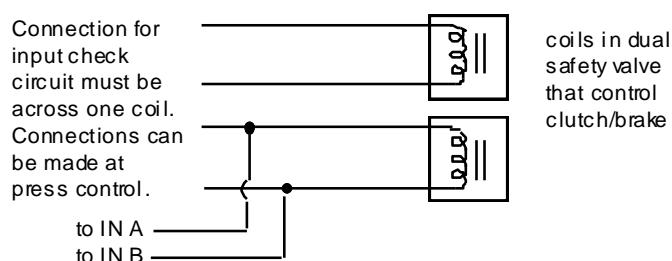

Figure 2-7. Schematic of input check circuit
4. Determine how you will connect wires to the input check circuit (terminals marked "IN A" and "IN B.") You need two wires. These inputs must be in parallel with one of the coils of the dual safety valve that controls the clutch/brake. When the clutch is engaged, 12–250 Vac or Vdc (50-60 Hz) must be present across terminals A and B. See Figure 2-7. The connection can be made inside the press control where the circuits to the valve relays are wired in. Refer to your press control manual and electrical prints. It does not matter which wire goes to which terminal on the connector.
11. Connect wires for the input check circuit to the terminals marked "IN A" and "IN B" (5 and 6). It does not matter in which order you connect the wires. See Figure 2-7.